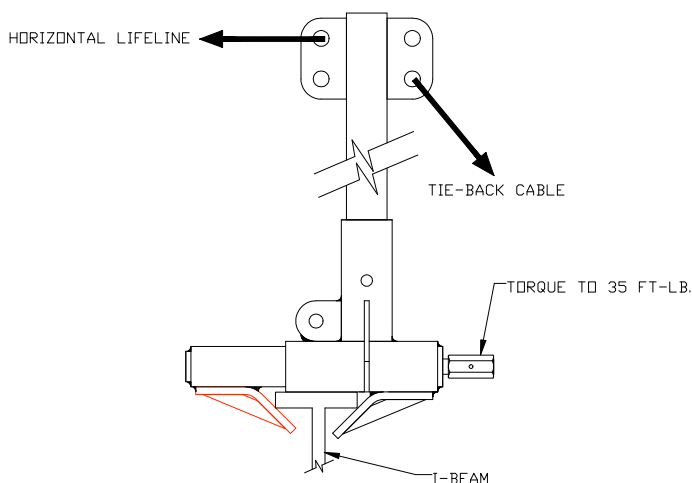

Figure 7
3. Place other jaw over I-beam flange and tighten nut to a minimum of 35 ft-lb. (See Figure 7)